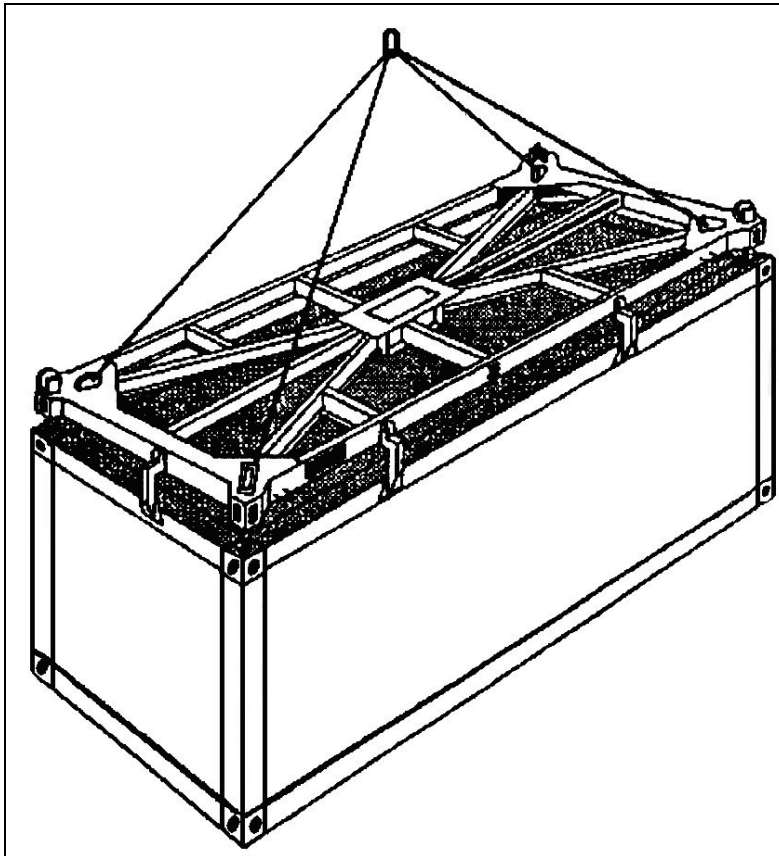

Figure 3-128. Attaching a Semiautomatic Toplift Spreader Device to a Container
3. Signal the winch operator to lower the toplift spreader device onto the container (see Figure 3-128).